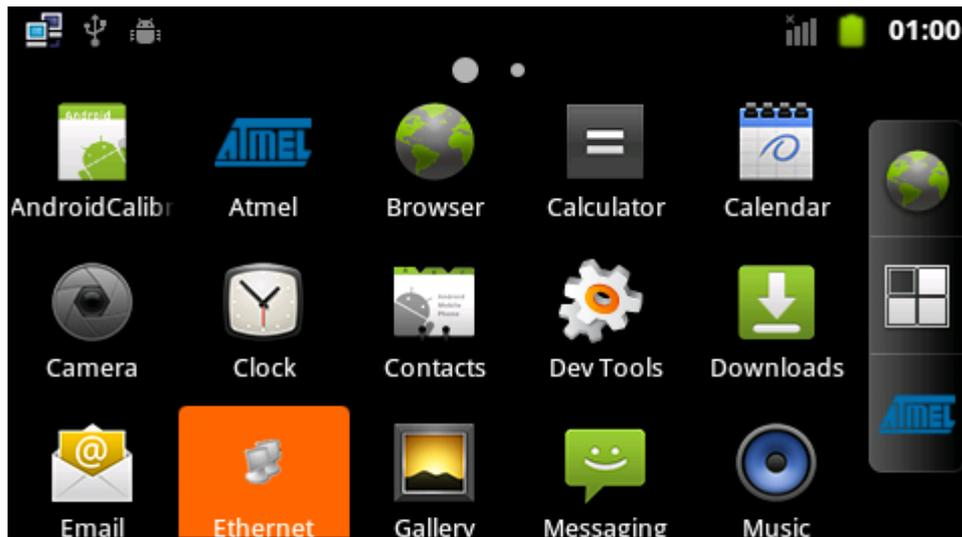

Figure 5-25
(1) Enter interface and select icon "Ethernet". Refer to figure 5-25: